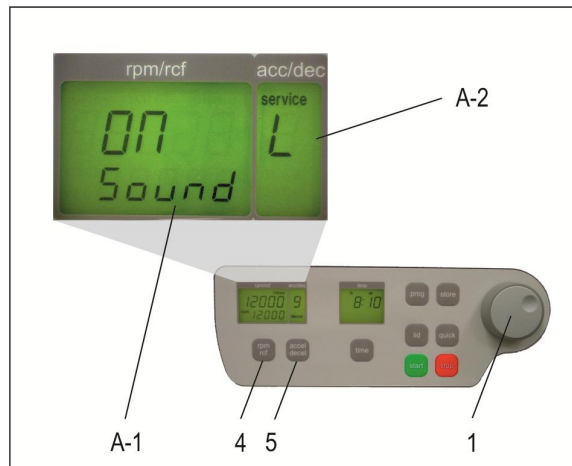

Figure 4
Proceed as described under point 1.8.1 to enter this program mode and then press the key „accel/decel“ (5). In the display „accel/decel“ (A-2) flashes the word „service“. Now select the letter „L“ with the adjusting knob (1). As a result appear in the display „rpm/rcf“ (4) the words „On Sound“. If you press the key „rpm/rcf“ (4) now, the word „On“ flashes and you can switch off the sound with the adjusting knob (1) (see figure 4).